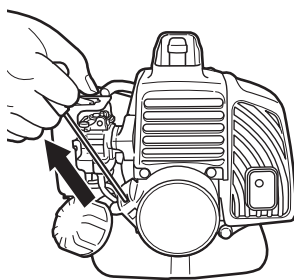

Fig. 25
3. Pull recoil starter briskly, taking care to keep the handle in your grasp and not allowing it to snap back. (Fig. 25)